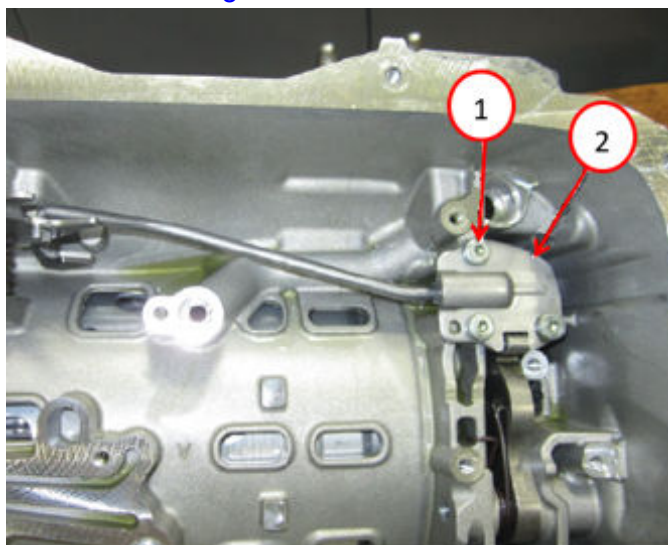

Fig. 36
55. Install the clutch B damper spring on the assembly Fig. 36.